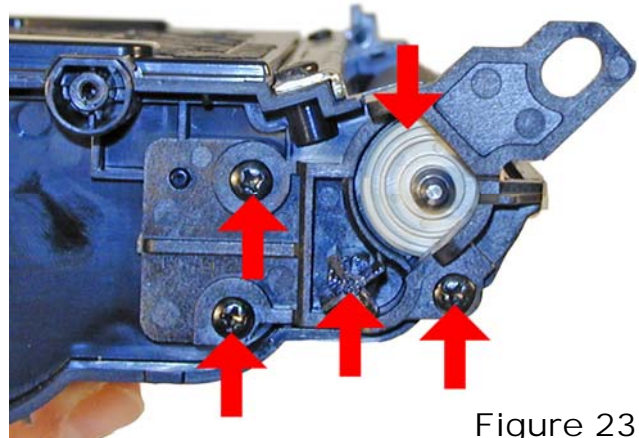

Figure 23
20) Install the waste chamber drive gear, end cap, and three screws on the waste chamber side. See **Figure 23**